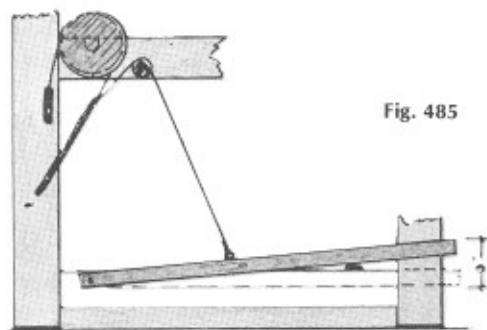

Fig. 485
- If your loom is equipped with the friction brake as illustrated in figures 485, 487, 488 or 489, to advance the warp: